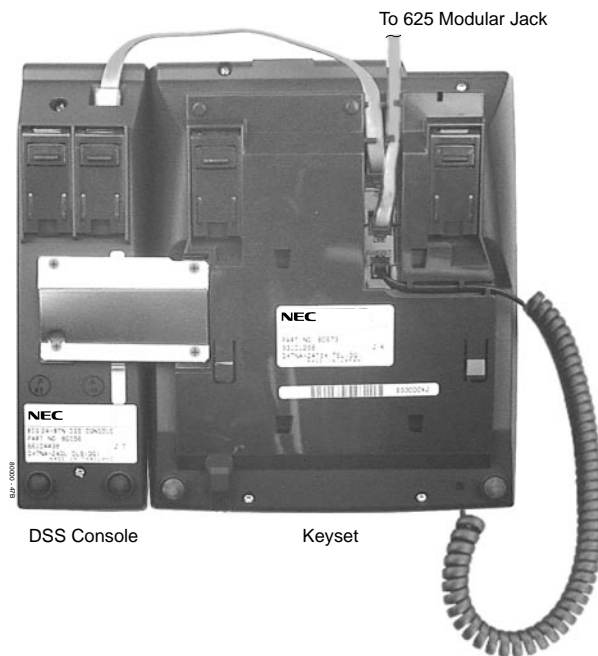
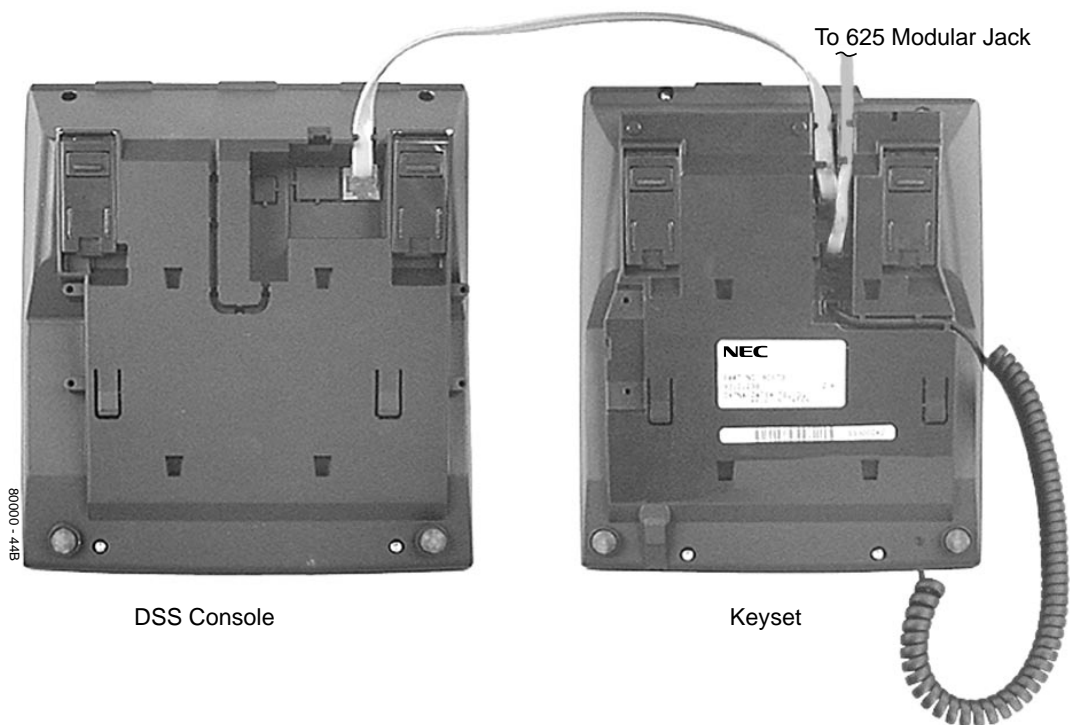

Figure 4-7: Installing a 24-Button DSS Console
Figure 4-8: Installing a 110-Button DSS Console
To install a DSS Console (Figure 4-7) (Figure 4-8):
4. If you have a 24-Button DSS Console, attach the metal plate to both the DSS Console and telephone. See Figure 4-7 *Installing a 24-Button DSS Console* below for more.